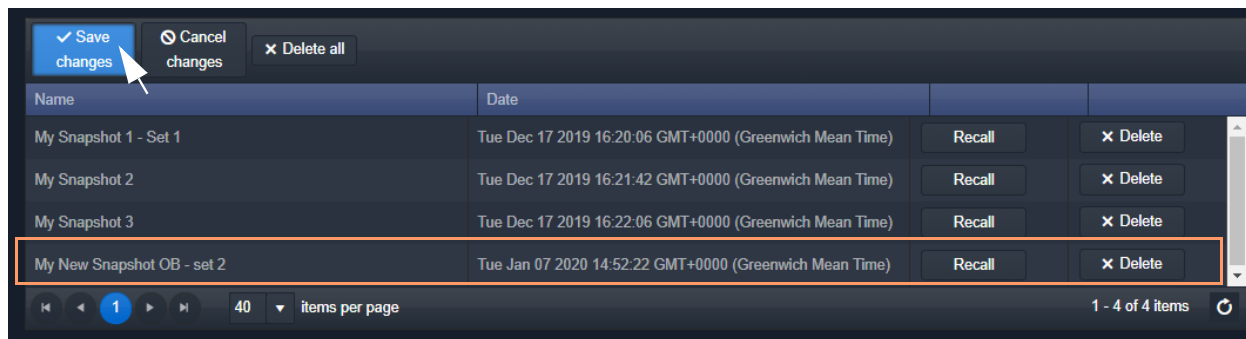

Figure 28: Snapshot Name Changed and Saved
- Click **Save Changes**. (See Figure 28.)